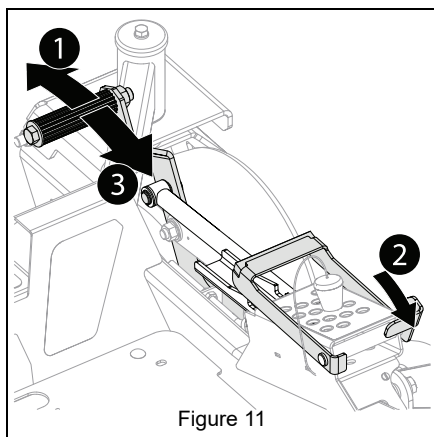

Figure 11
3. Push deck lift pedal slightly forward, release transport lock and slowly release pedal until deck rests. See Figure 11.